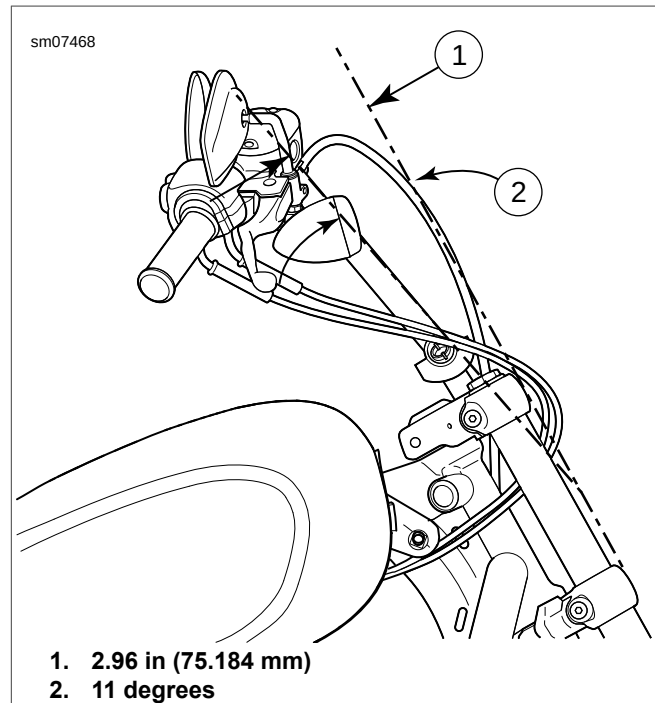

Figure 2-191. XL 1200CP/CB Mini-Ape Handlebar Angle
See Figure 2-191. Rotate mini-ape handlebar 11 degrees (2) rearward of the fork angle. Measure from a straight edge placed on the fork bracket 2.96 in (75 mm) to the end of the straight (1) (beginning of the last bend). This angle positions the handgrips 15 in (381 mm) above seat height.